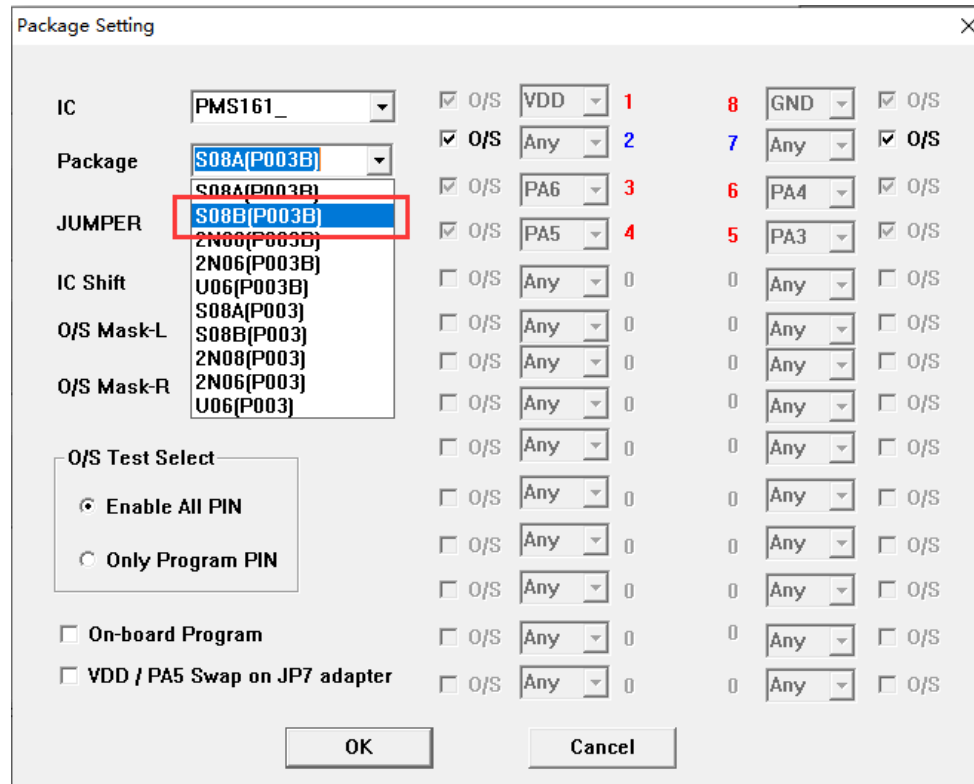

Fig.22: PMS161-S08B package setting when using P003B
1. For PDK5S-P-003B to write PMS161-S08A, just use jumper2 and it needs downward four spaces on the Textool. Other packages need to convert the file and use jumper7. Taking the writing of PMS161-S08B as an example, other packages only need to change the chip package and jumper7 connection in the "package setting" interface. The package settings are shown in Figure 22: